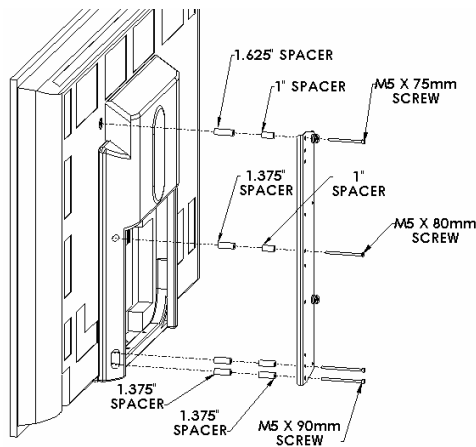
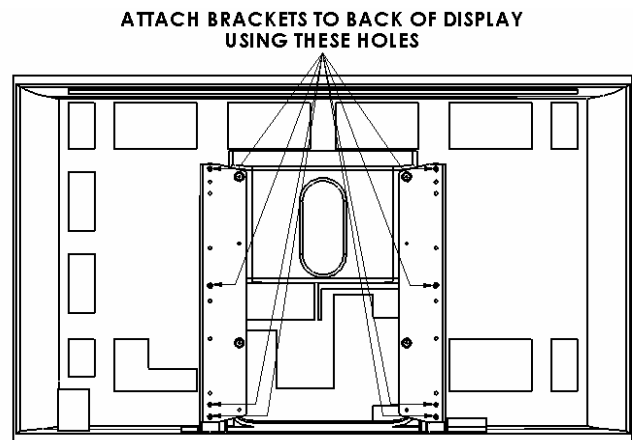

Figure 8
Figure 9
- Attach side bracket to back of display by stacking spacers and using M5 screws (see Figure 8 & Figure 9). Make sure to use the four M5 x 90mm screws in lower holes, two M5 x 80mm screws in middle holes and two M5 x 75mm screws in upper holes. **Proceed to step 8 (page 3).**